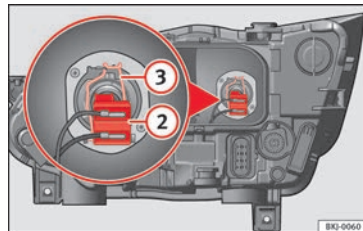

Fig. 97 In the engine compartment: dipped beam headlight.
- Remove the bulb connector »» Fig. 97 ②.
- Unclip the retainer spring »» Fig. 97 ③ pressing inwards to the right.